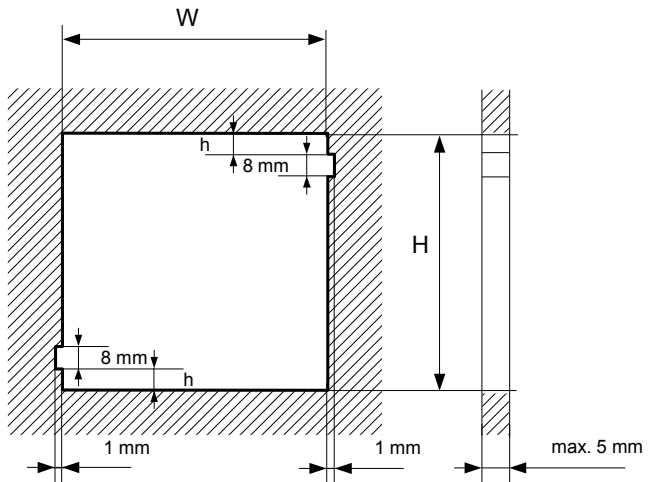
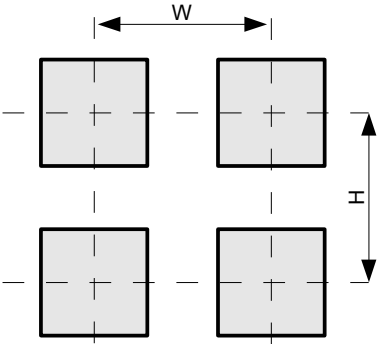
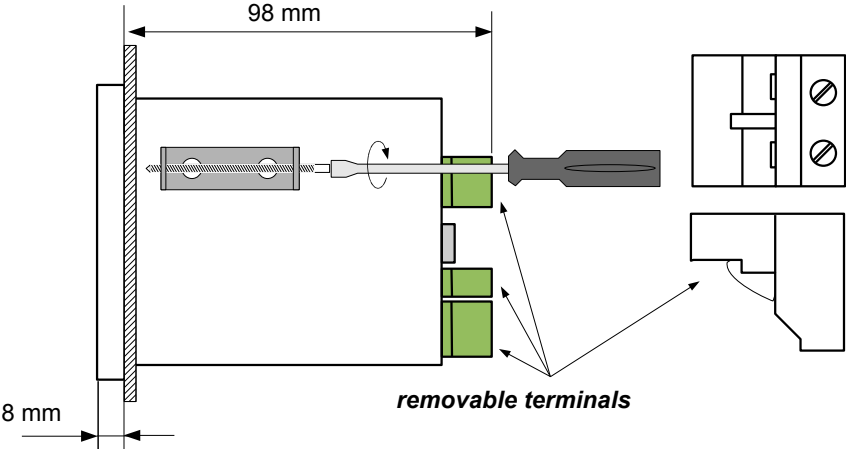

Fig. 4.2. Mounting hole dimensions
Fig. 4.3. Minimum distances when assembly of a number of units
Fig. 4.4. Installing of brackets
- In order to install the unit, a mounting hole must be prepared according to **Fig. 4.2**. The thickness of the material of which the panel is made must not exceed 5mm. When preparing the mounting hole take the grooves for catches located on both sides of the housing into consideration (**Fig. 4.2**). Place the unit in the mounting hole inserting it from the front side of the panel, and then fix it using the brackets (**Fig. 4.4**). The minimum distances between the centre points of multiple units - due to the thermal and mechanical conditions of operation - are shown on **Fig. 4.3**.